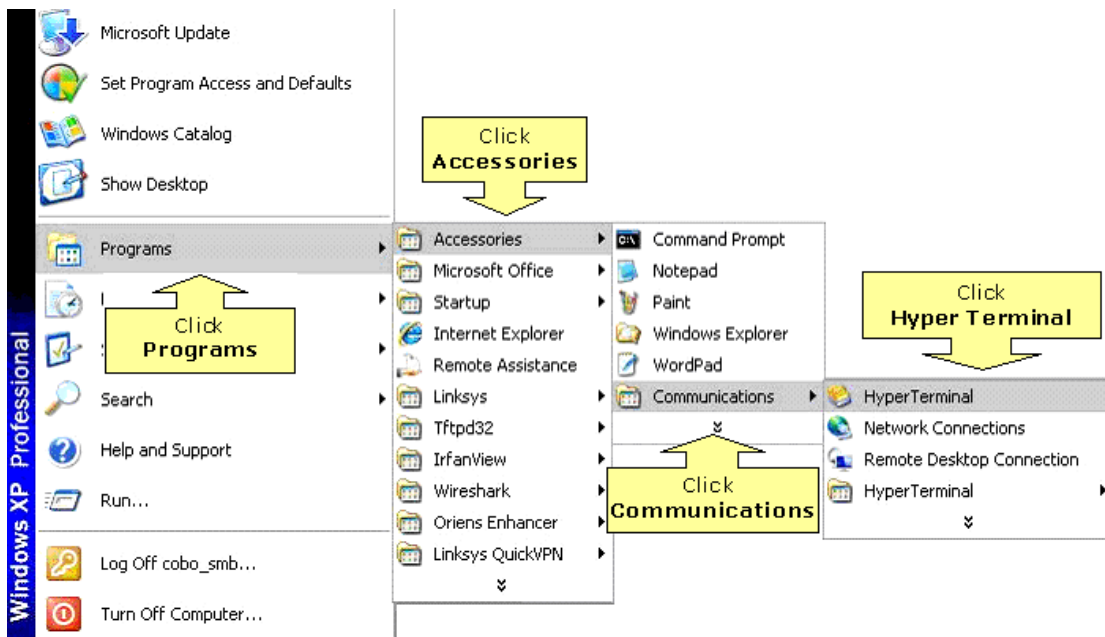

Figure 6: Opening HyperTerminal Session
1. Open a HyperTerminal session by using the following steps and as shown in Figure 6.